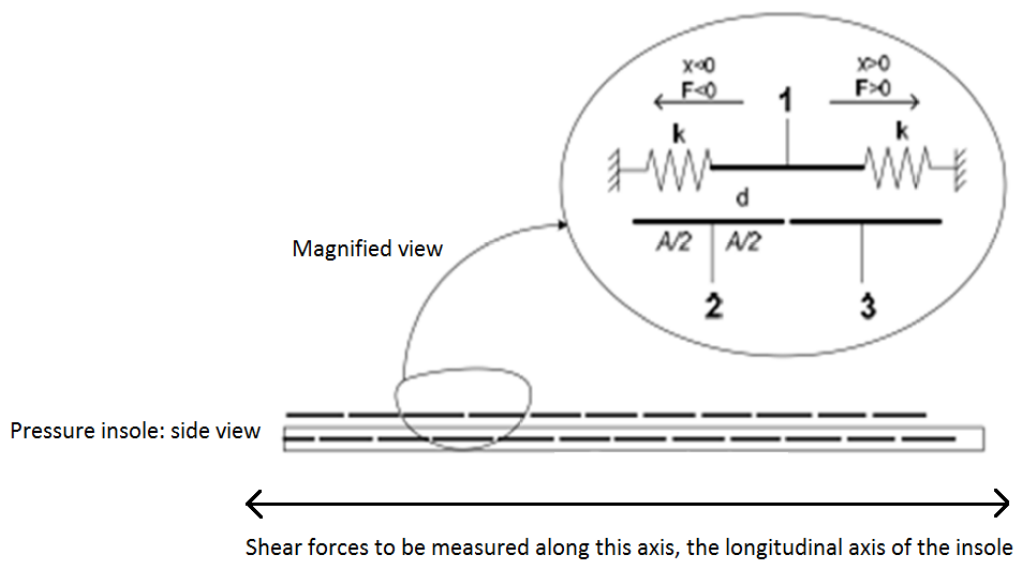
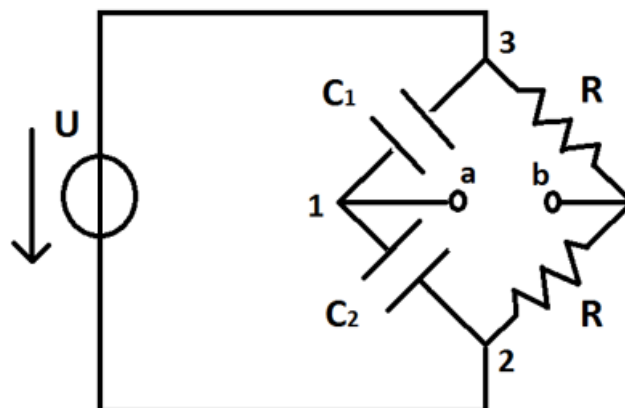

Figure 2: representation of the pressure insole
Figure 3: Conditioning bridge
- 1) In the diagram representing the pressure insole (Fig. 2), we can see 3 different plates that effectively function as two capacitors. When plate 1 is displaced, it brings about a change in the area "seen" by the other capacitors. We already saw in the course that this double-capacitor system can be conditioned with the circuit below (Fig. 3).
Note that plate 1 in Fig. 2 has been represented as two plates in Fig. 3 for clarity.
Here, $\epsilon = \epsilon_r \epsilon_0$, with ϵ_0 being the permittivity of vacuum. Let the side length of each square-shaped capacitor be a . Thus, $A = a \times a$. Let plate 1 be displaced to the left (refer Fig. 2) by an amount $x = \frac{F}{2k}$. Then, due to a change in the surface area of plate 1 “seen” by the plates 3 and 2, the capacitance values C_1 (formed by plates 1 and 3) and C_2 (formed by plates 1 and 2) will change in the following way:
We can then obtain the measured voltage, U_0 from Fig. 3 as: